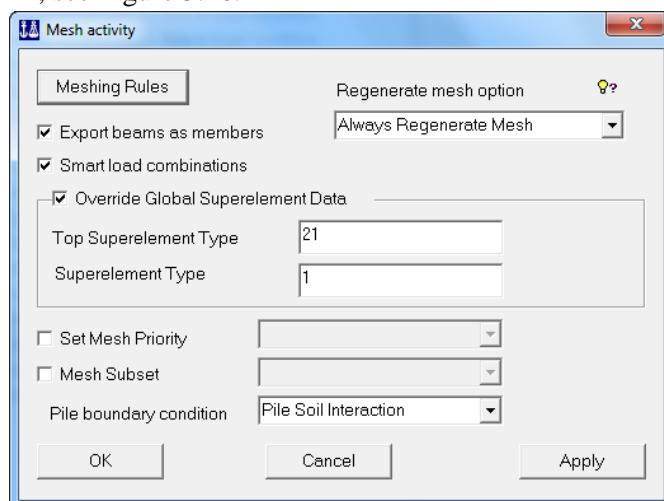

Figure 3.46 The Mesh activity dialog for setting superelement number
- Right click > Edit activity to open the Meshing activity dialog and set top superelement number to 21; see Figure 3.46.